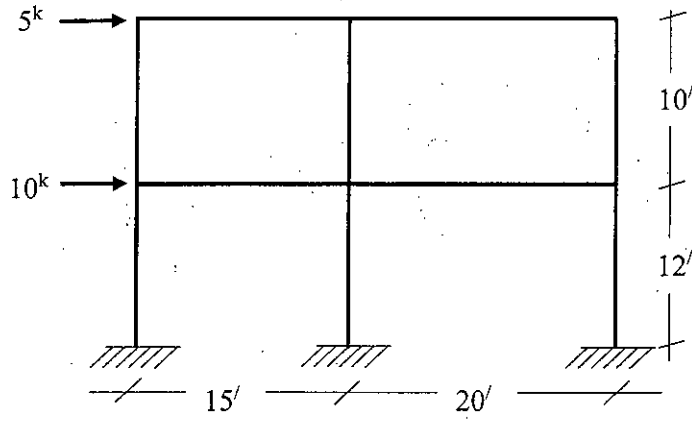

Fig. 9
10. Using portal method, draw the bending moment diagrams of the beams of the frame shown in Fig. 9. (28)